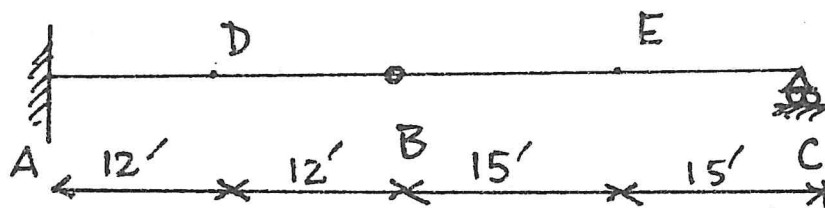

Fig. 15
- (iii) $M_A, M_D, M_E,$ for the beam as shown in Fig. 15.